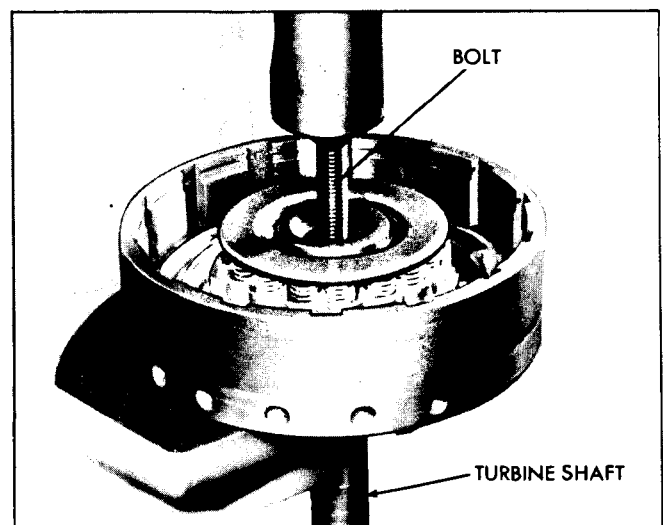

Fig. 7E-116 Pressing Turbine Shaft From Clutch Housing
6. Using Clutch Spring Compressor J 4670 with Adapters J 6129 and J 8765, compress spring retainer and remove snap ring (Fig. 7E-117).
7. Remove snap ring, spring retainer and sixteen (16) clutch release springs.